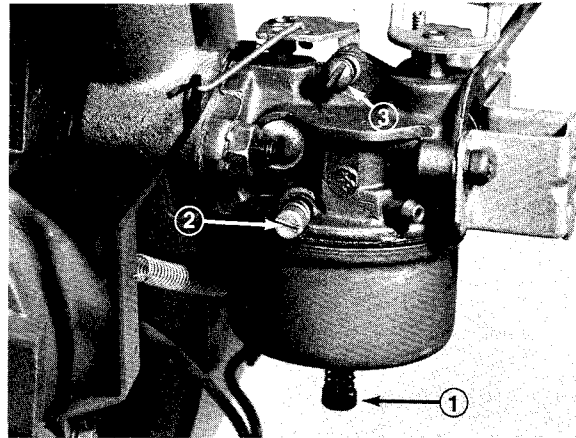

Figure 40
2. Power adjusting screw (Fig. 40) — Close screw by gently rotating it clockwise until a slight seating resistance is felt. Next, rotate power adjusting screw 1 full turn — 360° — counterclockwise.
3. Idle mixture screw (Fig. 40) — Close screw by gently rotating it clockwise until a slight seating resistance is felt. Next, rotate idle mixture screw 1-1/2 full turns counterclockwise.
5. Rotate power adjusting screw (Fig. 40) clockwise — in — 1/8 turn at a time until engine misses because of a lean gasoline mixture. Then rotate screw counterclockwise — out — 1/8 turn at a time until engine runs unevenly because of a rich gasoline mixture. Next, rotate power adjusting screw clockwise, back to the midpoint between the rich and lean setting so engine runs smoothly.
6. Move throttle to idle speed. Next, rotate idle speed screw (Fig. 40) until engine idles fast — 1750 rpm.
7. Rotate idle mixture screw (Fig. 40) clockwise — in — 1/8 turn at a time until engine begins to miss because of a lean mixture. Then rotate screw counterclockwise — out — 1/8 turn at a time until engine runs unevenly because of rich mixture. Next, rotate idle mixture screw clockwise, back to the mid-point between rich and lean setting.
8. Again, rotate idle speed screw (Fig. 40) until engine idles at 1750 rpm.